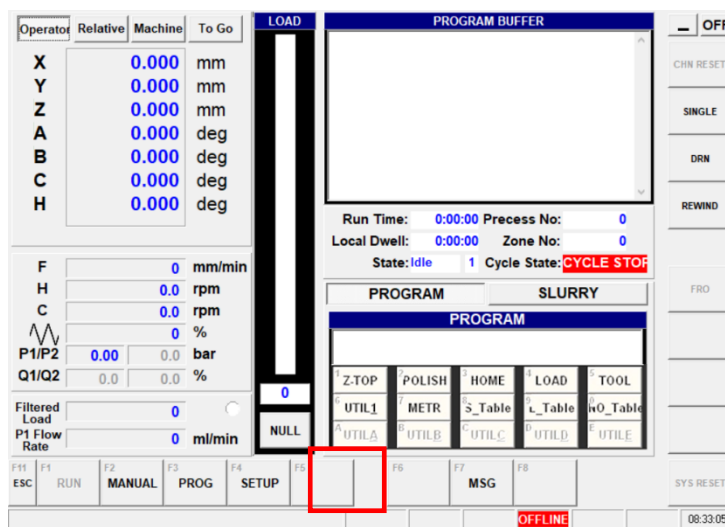

Figure 37 - Main GUI screen - Setup
9. Press the “Setup” button. See (Figure 37 - Main GUI screen - Setup).